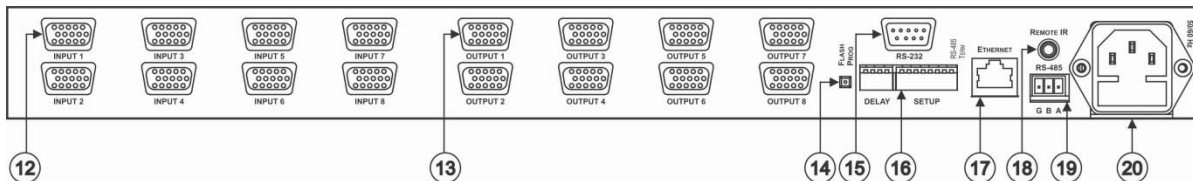

Figure 2: VP-8x8 User Manual Rear Panel
Switch OFF the power on each device before connecting it to your VP-8x8. After connecting your VP-8x8, switch on its power and then switch on the power on each device. DO NOT push in the rear panel Flash Program “Program” button (item 14 in Figure 2) and DO NOT push in the underside Flash Program “Reset” button. These are only used for upgrading to the latest Kramer firmware.